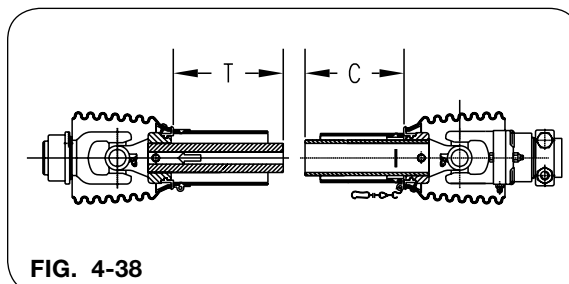

FIG. 4-38
2. Pull apart PTO telescoping shaft ends and measure lengths "T" & "C" (FIG. 4-38).